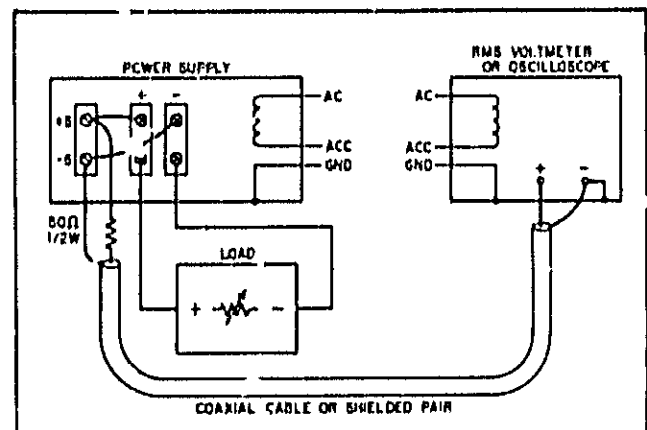

Figure 5-3. Constant-Voltage Ripple Test Setup.
5-22 Ripple Measurement Techniques. Figure 5-3 shows the method for measuring ripple using a single-ended true-reading RMS voltmeter or oscilloscope. The power supply output terminals should not be connected to ground at the power supply terminal strip to prevent current from flowing through a ground loop and adding to the measured signal. Also, to ensure that no potential difference exists between the supply and the RMS voltmeter, it is recommended that they both be plugged into the same ac power bus. If the same bus cannot be used, both ac grounds must be at earth ground potential.
- a. Connect test setup shown in Figure 5-3.
5-26 A single-ended measurement (replacing RMS voltmeter in Figure 5-3 with an oscilloscope) is usually not adequate for measuring spikes; a differential oscilloscope is necessary. Because of its common-mode rejection, a differential oscilloscope displays only the difference between its two vertical input terminals, thus ignoring the effects of any common-mode signal produced by the difference in the ac potential between the power supply case and the oscilloscope case. Before using a differential-input oscilloscope, however, it is imperative that the common-mode-rejection capability of the oscilloscope be verified. Turn both the VOLTAGE and CURRENT controls fully counterclockwise, short together the two input leads at the power supply, and observe the trace on the CRT. If the trace is a straight line, then the oscilloscope is properly ignoring any common-mode noise present. If the trace is not a straight line, then the oscilloscope is not rejecting the ground signal and must be realigned in accordance with the manufacturer's instructions so that proper common-mode rejection is attained.